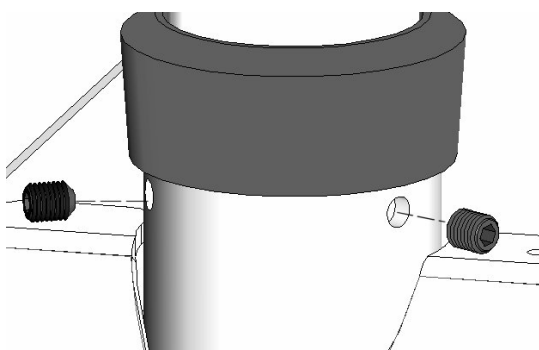

Figure 5. Insert Setscrews
8. Insert setscrews in base and tighten to secure upright tubes (see Figure 5).